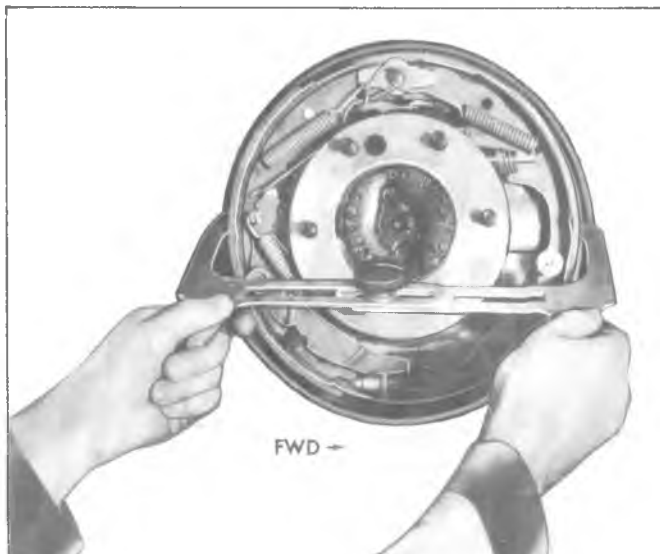

Fig. 15—Setting Lining Clearance with J-21177
- b. Turn the tool to the opposite side and fit over the brake shoes by turning the star wheel until the gauge just slides over the linings (fig. 15).